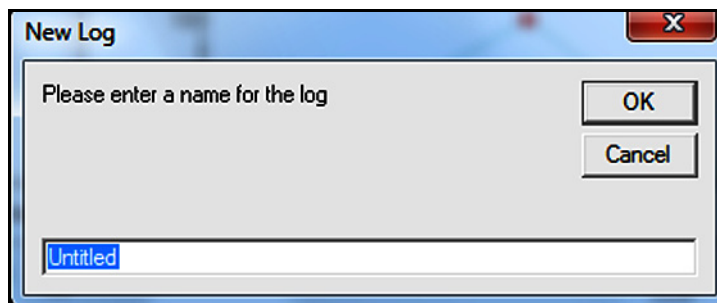

Figure 83: Log Name Dialog Box
6. Enter a log file name ("*Untitled*" is used here) in the dialog box shown in *Figure 83* below. Click [OK] button.